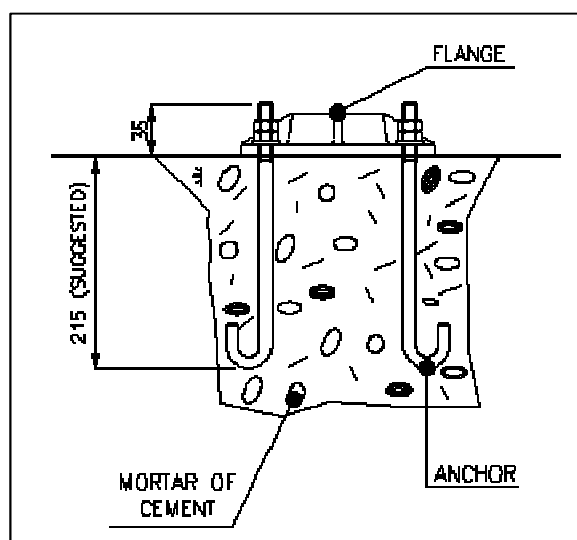

Figure 9: Flange Installation with Anchor Bolts
- d) The concrete foundation for the sign should be flat and levelled. Refer to Figure 9 for relevant data. The isolating transformer must be placed inside a concrete pit complete with pipe elbow for the secondary cable passage or inside a steel base complete.
- e) It is recommended that the anchor bolts (M12X60) used for the flange anchoring, are mounted after the completion of the concrete foundation. The anchor bolts have to be walled accurately as shown in Figure 9 and in manner to assure the parallelism of the centreline marked on the flange and the sign centreline.